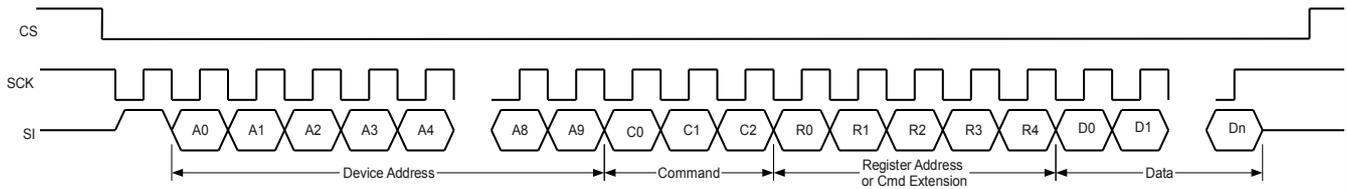

Figure 18: Communication to the sensor devices (Broadcast Command)
2. Commands which communicate to the chips at the 2-wire bus, also called "Broadcast Commands" (Figure 18).